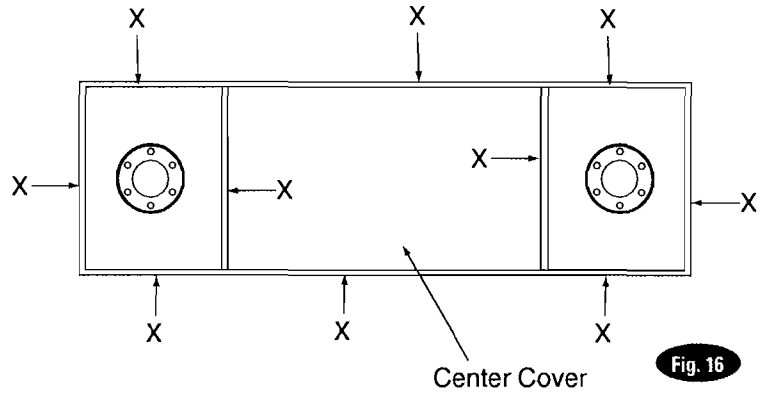

Fig. 16
15. Setting Cover; refer to Fig. 16:
- C. Install and tighten cover retaining bolts. Torque to 60 ft-lbs. **IMPORTANT** Clean areas indicated with X, Fig. 16, and seal with a premium 25 year silicone.